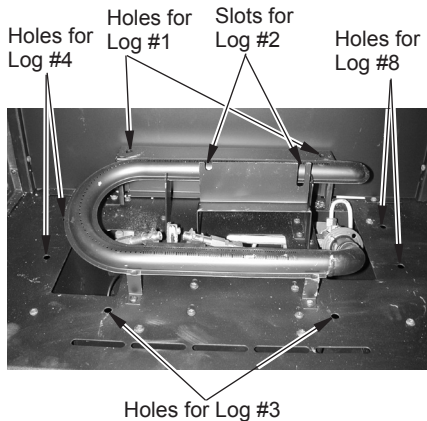
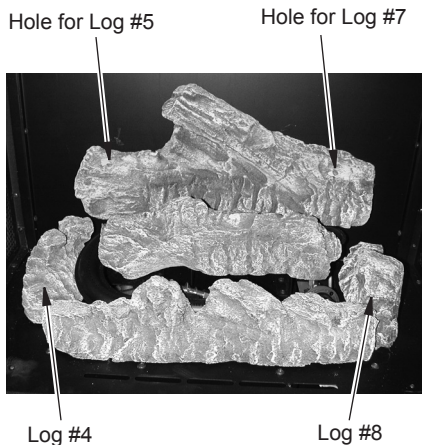

Figure 13 - Log Base and Chassis
Figure 15 - Logs #4 and #8
2. Place pins on log #1 into holes in rear bracket as shown in Figures 13 and 14.
3. Place pins on log #2 into slots in middle bracket as shown in Figures 13 and 14.
- Place pins on log #4 into holes to the left of the burner as shown in Figure 13, page 15, and Figure 15.
- Place pins on log #8 into holes to the right of the burner as shown in Figure 13, page 15, and Figure 15.
- Place pin on log #5 into hole in the left side of log #1 as shown in Figures 15 and 16.
- Place pin on log #7 into hole in the right side of log #1 as shown in Figures 15 and 16.